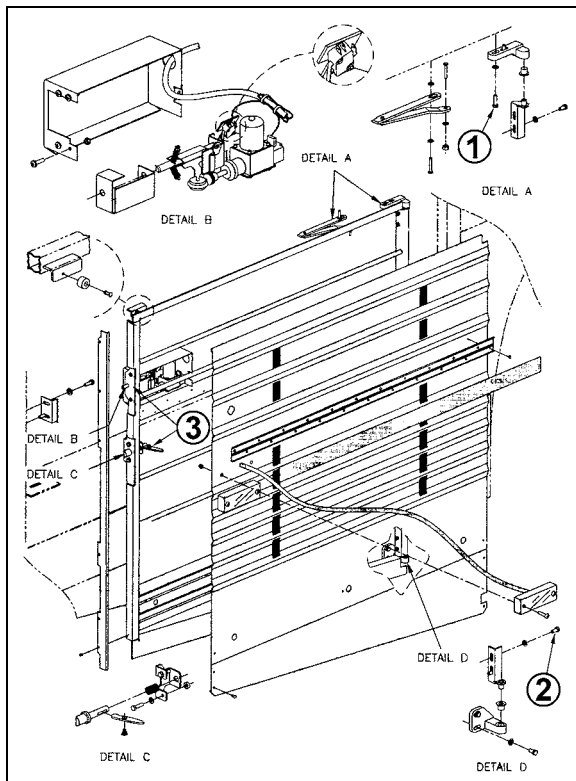

FIGURE 35: ENGINE COMPARTMENT R.H. SIDE DOOR.18635
1. Loosen the bolts, (1, Fig. 35) holding the hinge to the vehicle structure to shift the door "IN or OUT" and "UP or DOWN".
2. Loosening the bolts (2, Fig. 35) allows the door to be shifted "LEFT or RIGHT" and "UP or DOWN".
To adjust the latch mechanism (3, Fig. 35) and the striker pin: